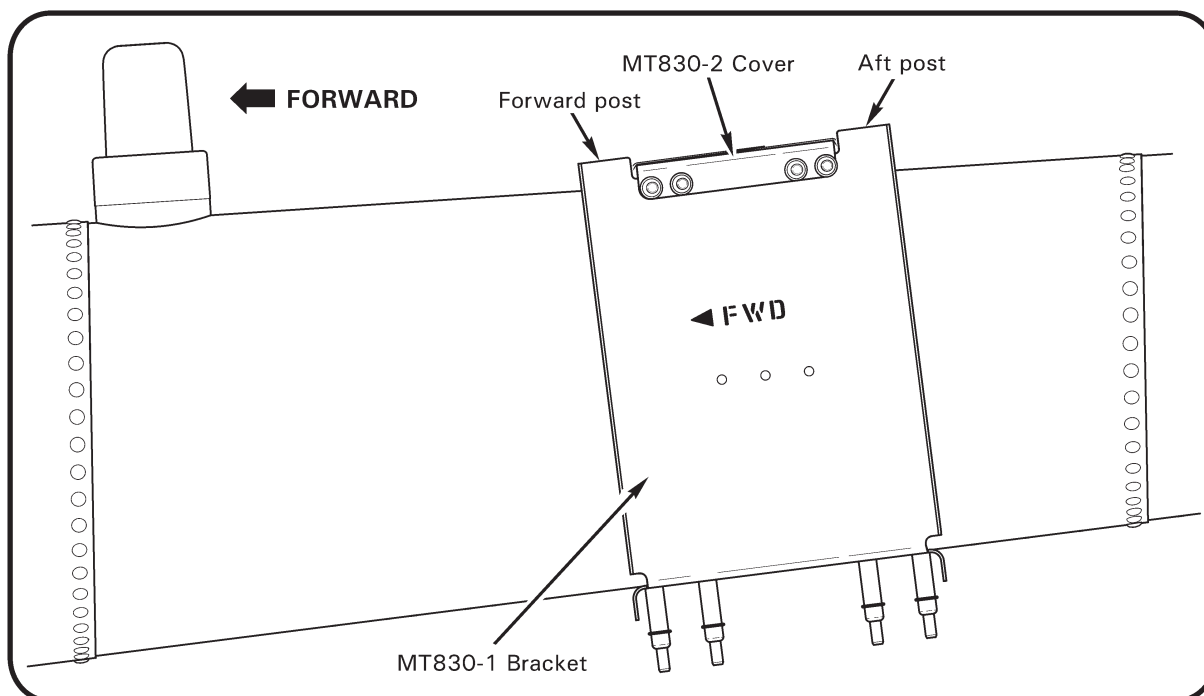
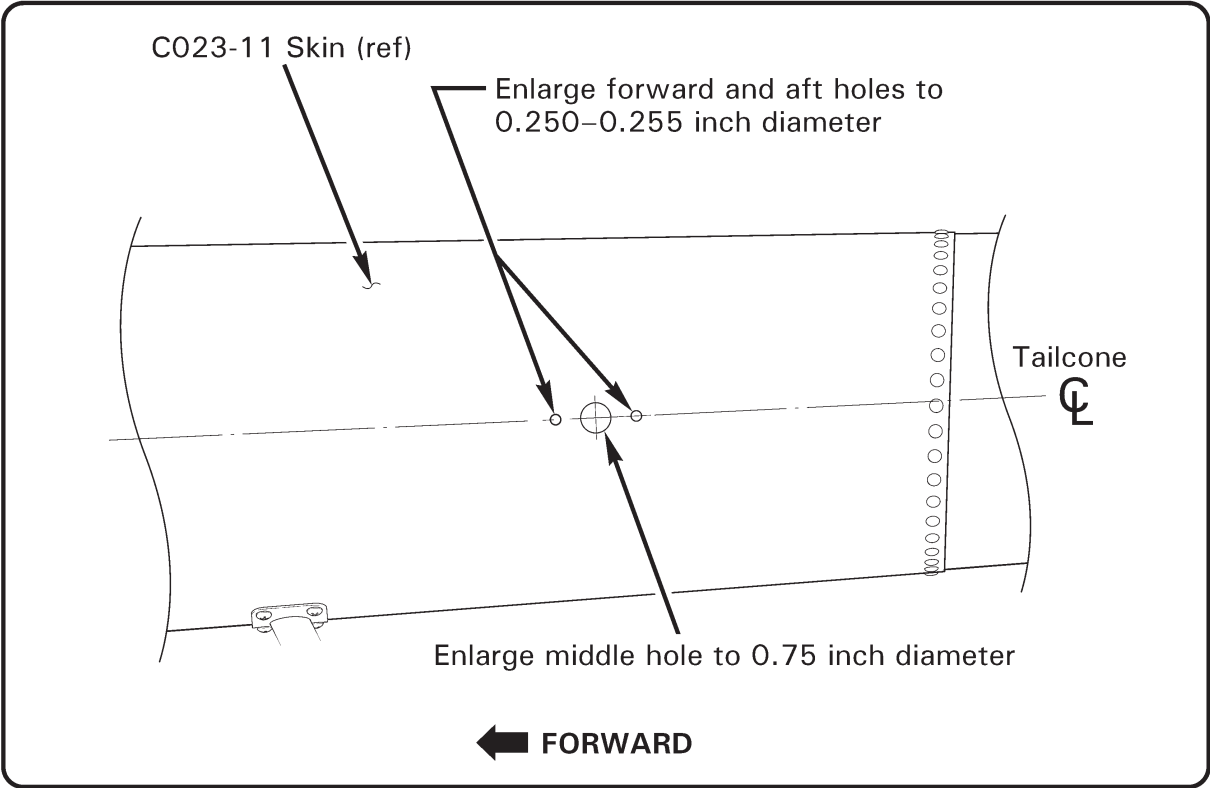

FIGURE 3 Assembling MT830 Locator tool
FIGURE 5 Holes for stiffener installation
7. Refer to Figures 3 & 5. Using LH aft hole in bracket as template and a drill with drill stop, drill (1) 0.190–0.196 inch diameter hole and install cleco thru C023-11 skin. Verify locator tool remains level. At RH aft hole in bracket, drill (1) 0.190–0.196 inch diameter hole thru skin and install cleco.
8. Place protractor across forward posts of bracket and verify locator tool is level within 0.5 degree; adjust as required. At LH forward hole in bracket, drill (1) 0.190–0.196 inch diameter hole thru skin and install cleco. Verify locator tool remains level. At RH forward hole in bracket, drill (1) 0.190–0.196 inch diameter hole thru skin and install cleco. Remove protractor and straight edge (if used). At LH & RH middle holes in bracket, drill (2) 0.190–0.196 inch diameter holes thru skin. Remove clecos and locator tool.
9. Refer to Figure 5. Using 1/4-inch drill fitted with drill stop, enlarge (2) forward & (2) aft pilot holes, to 0.250–0.255 inch. Using a step drill enlarge (2) middle pilot holes to 0.75 inch. Deburr all newly drilled holes.